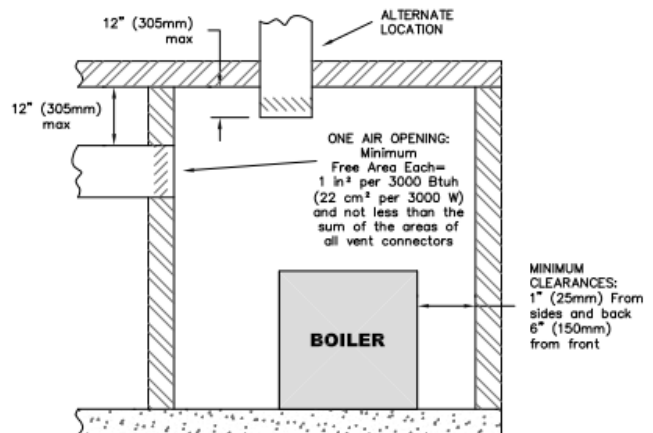

Figure 1.7: Air Openings – All Air from Outdoors
- b. **One Permanent Opening Method:** Provide one permanent opening beginning within 12 inches (305 mm) of the top of the space. The opening shall communicate directly with the outdoors, communicate through a vertical or horizontal duct, or communicate with a space that freely communicates with the outdoors. The opening shall have a minimum free area of 1 in² per 3000 Btu/hr. of total rated input for all appliances in the space and not less than the sum of the cross sectional areas of all vent connectors in the space. The gas-fired equipment shall have clearances of at least 1 inch (25 mm) from the sides and back and 6 inches (150 mm) from the front of the appliance. See Figure 1.7 for this arrangement.